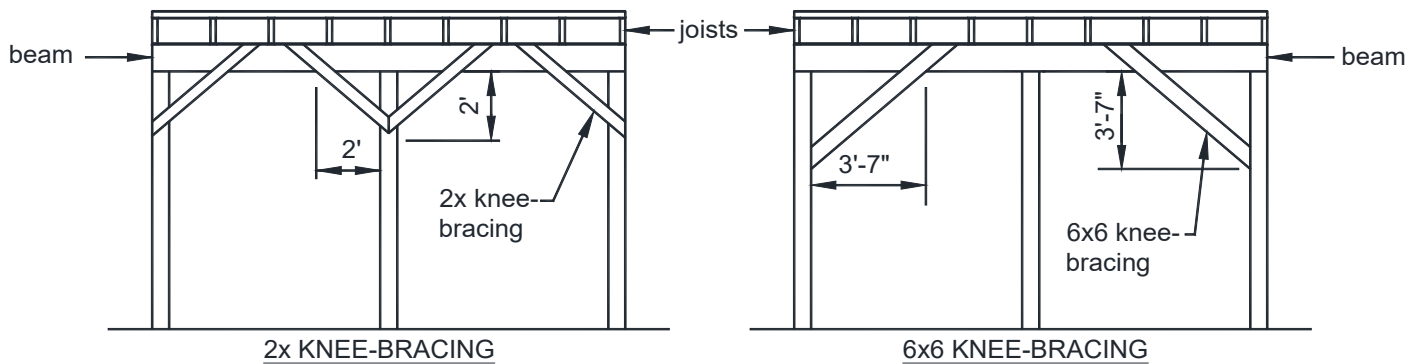

FIGURE 27: METHOD 2 - KNEE-BRACING AT BEAM-POST LOCATIONS
- Decks shall have 2x knee-bracing installed at each post-beam location or 6x6 knee-bracing at end posts and both sides of every other interior post in accordance with FIGURE 27.